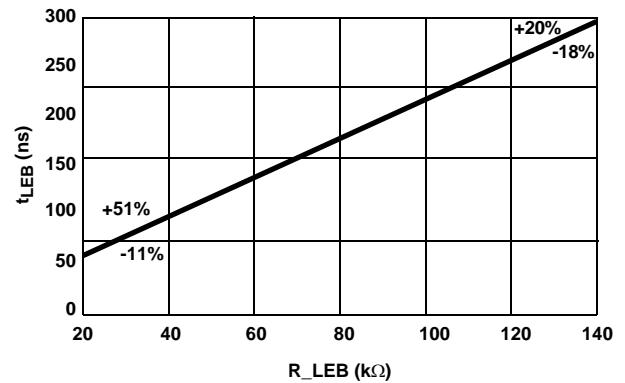

FIGURE 8. R_LEB vs. tLEB
- The blanking time can be estimated with Equation 9, whose relationship can be seen in Figure 8. The percentages in the figure are the tolerances at the two endpoints of the curve.